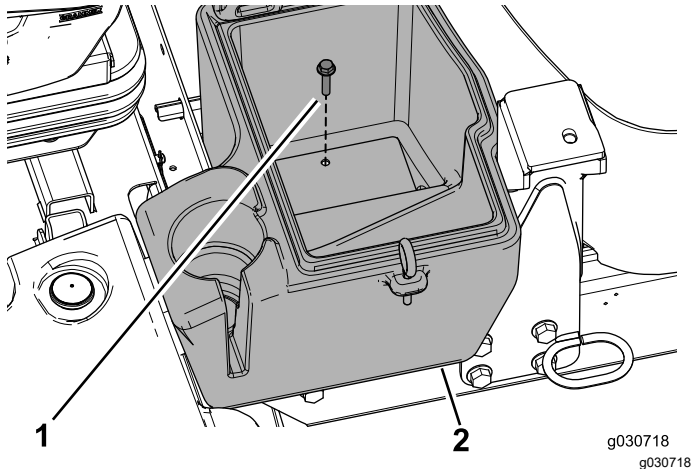

Figure 22
4. Use the bolt (5/16 x 1-1/2 inches) to secure the storage compartment to the machine (Figure 22).